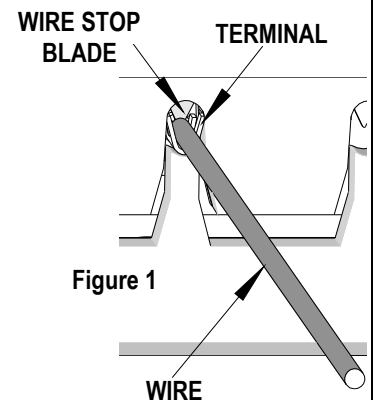
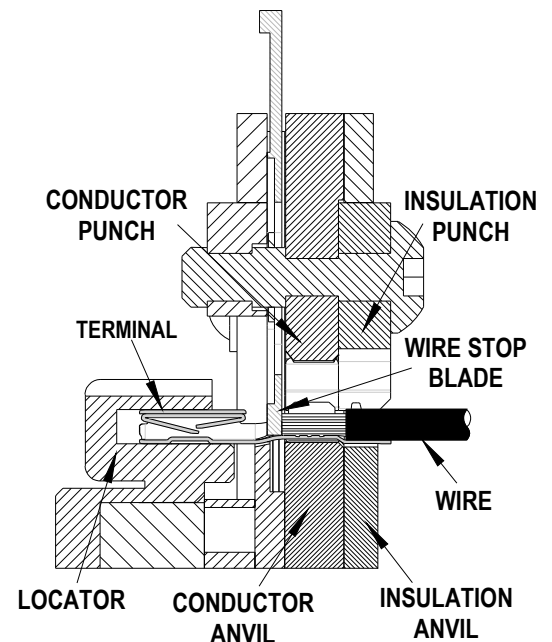

Figure 1
Figure 2
3. Slide the pre-stripped wire into the terminal; make sure to aim the wire brush towards the tip point on the wire stop blade. See Figure 1. Align the wire so that it is parallel and sitting into the terminal. Maintain a light and constant pressure on the wire that is seated in the terminal at all times. (Do not let go of the wire.) Be sure to hold the wire and terminal in place until the terminal is fully crimped. See Figure 2.